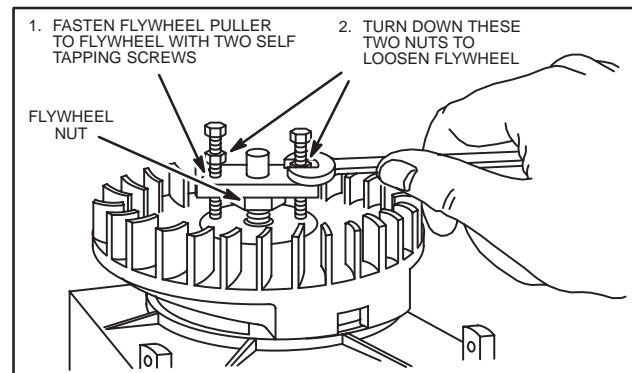

Fig. 81 – REMOVING FLYWHEEL
Use flywheel nut to protect crankshaft threads and for puller to bear against, Fig. 81.
See Fig. 81 for pulling procedure.
**NOTE:** Care is required not to damage flywheel fins, magnets or ring gear, Fig. 81.